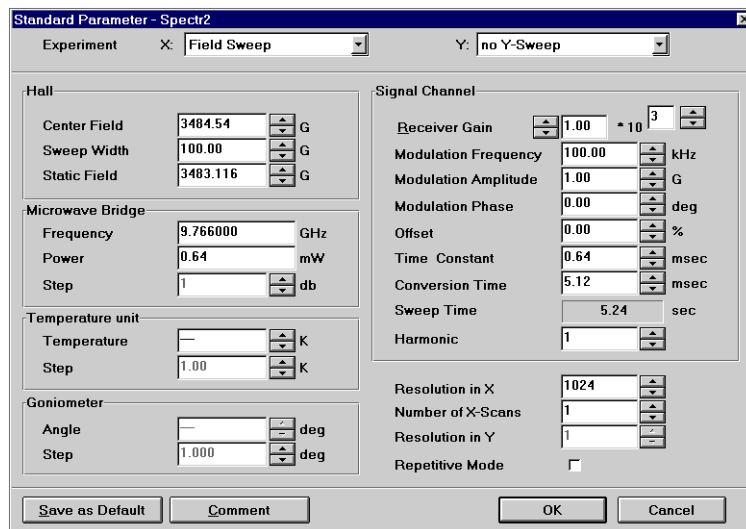

Figure 17-20 Parameters for a signal channel calibration.
9. **Adjust some parameters.** After centering the DPPH sample, most of the parameters should be fairly close to what is needed for the calibration routine. Check the values in the **Standard Acquisition Parameter** dialog box and modify them so that they correspond to the values in Figure 17-20. The **Center Field** value may be somewhat different from what is displayed in Figure 17-20, but the **Sweep Width** must be 100 Gauss.